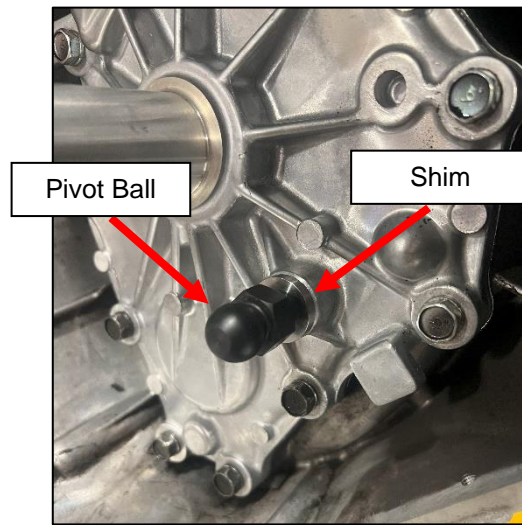

Figure 9
31. Install Pivot Ball with previously determined Pivot Ball Shim from *Step 22* . Apply a small amount of thread locker on the Pivot Ball threads prior to installing. If using the 2.8mm shim, torque to 30 ft-lbs. If using the 5mm shim, torque to 24 ft-lbs. *Figure 9.*